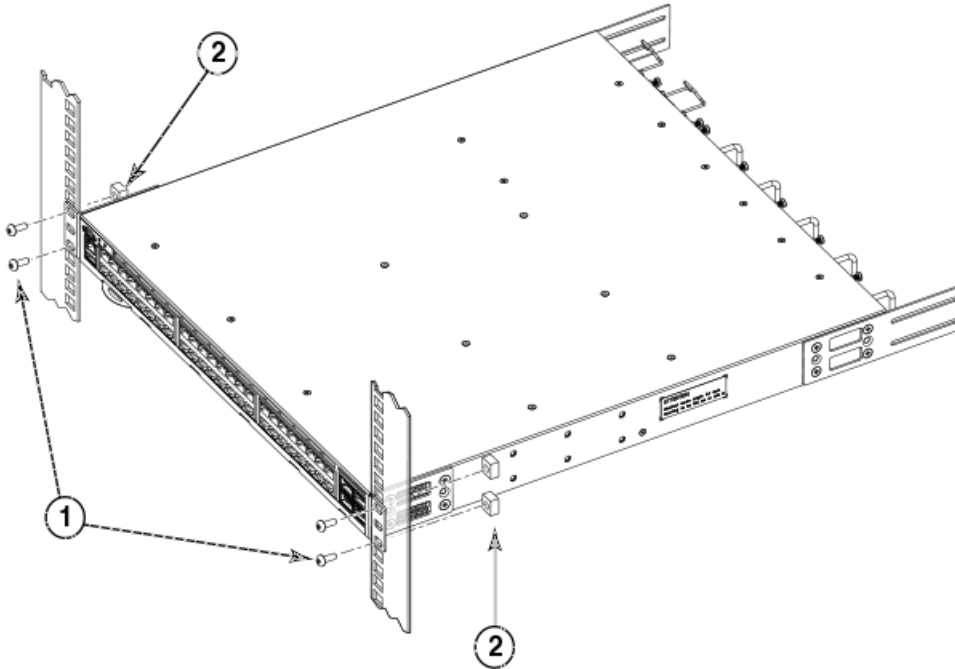

Figure 6. Positioning the device in the rack
1. Position the device in the rack, as shown in Figure 6 on page 20, providing temporary support under the device until the rail kit is secured to the rack.